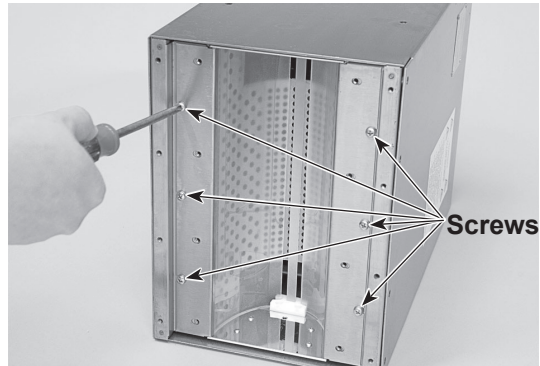

Figure 6-8 RF Screen Removal
4. See Figure 6-8. Loosen the six mounting screws, then remove the two retaining brackets from the lamphead base.